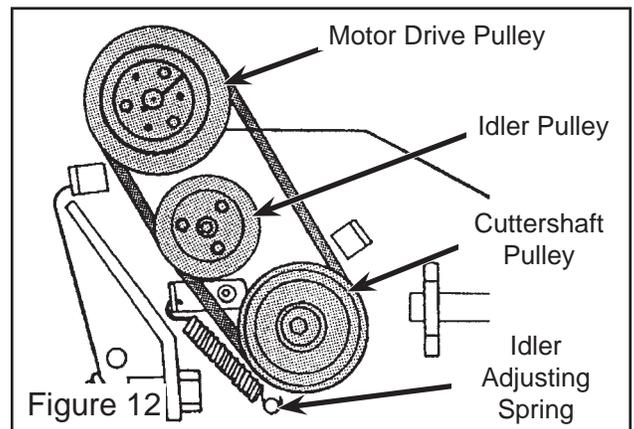

Figure 12
*Note: belts must be replaced as a matched set. Do not replace just one belt. (See figure 12 & 14)*